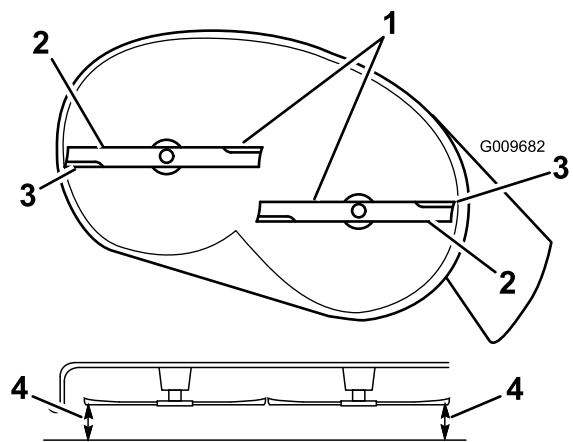
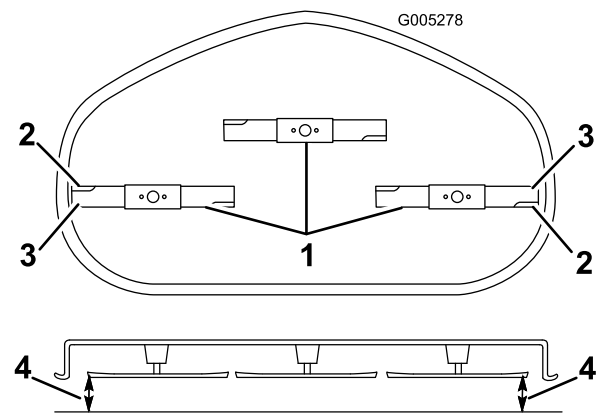

Figure 53
Figure 54
4. Carefully rotate the blades so that they are all side to side (Figure 53 and Figure 54).
5. Measure between the outside cutting edges and the flat surface (Figure 53 and Figure 54).